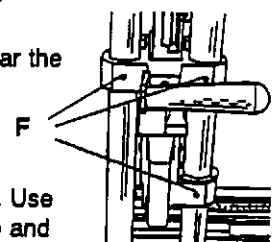

Figure 21
Three set screws (F) in Figure 21, can be adjusted to keep the CUTTING HEAD well fitted to the TUBES. Use the hex wrench provided and tighten any one of the three set screws while sliding the CUTTING HEAD up and down. At the first indication of "drag", loosen just enough to eliminate the drag. Make this adjustment with each of the set screws.